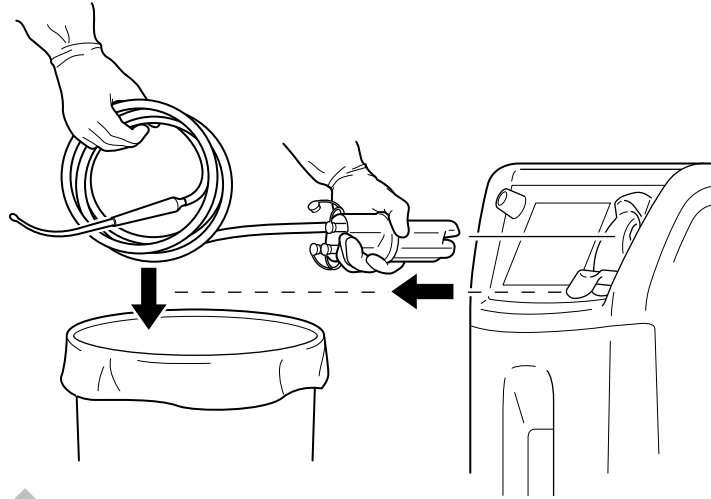

Figure 37 – Gather the Suction Components
4. Pull the manifold with the attached suction tubing out of the receptacle to fully remove the manifold from the rover. (Figure 37).